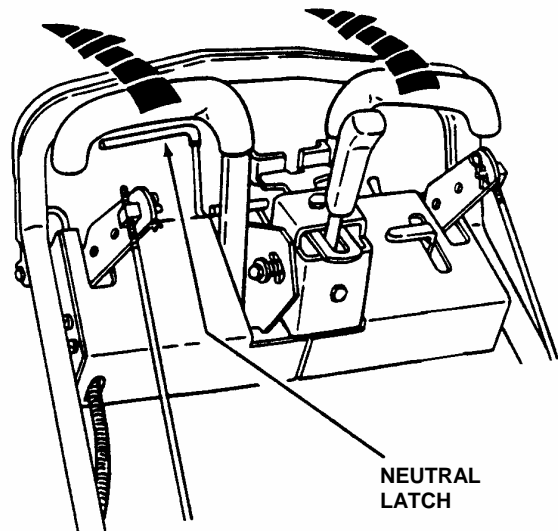

FIGURE 3.5
4. To start machine movement, simultaneously squeeze both Traction Levers SLOWLY back towards the handlebar, allowing machine to start reverse movement. See Figure 3.5.